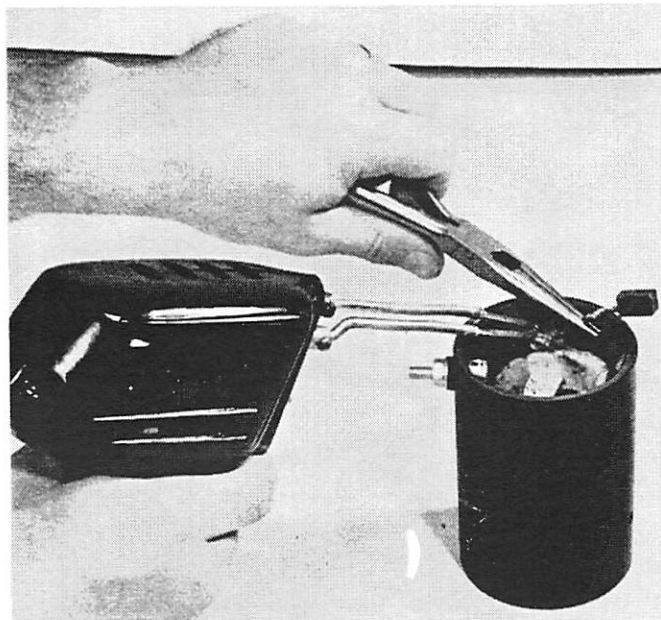

Figure 1. Soldering New Brush Lead
- (1) Unwrap tape and slide sleeve from soldered connection.
- (2) Loosen soldered connection with soldering iron.
- (3) Resolder new brush lead to coil connections with rosin flux only. (Figure 1)